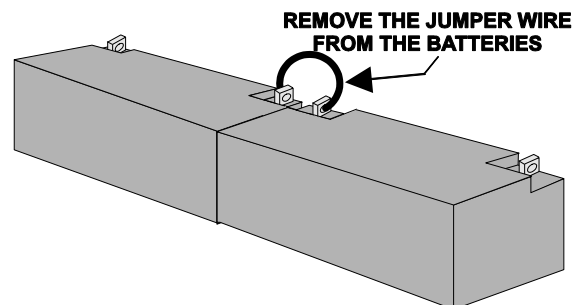

Figure 7
203. Remove the batteries from the unit. With the 5/16-inch wrench or nutdriver, remove and save the battery cable connecting the two (2) batteries in series. (See Figure 7.)